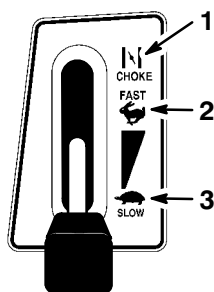

Figure 7
4. Move the throttle lever to “CHOKE” (Fig. 7).
6. After the engine starts, slowly move the throttle lever to “FAST” (Fig. 7). If the engine stalls or hesitates, move the throttle lever back to “CHOKE” for a few seconds. Then move the throttle lever to “FAST.” Repeat this as required.
1. Move the throttle lever to “FAST” (Fig. 7).